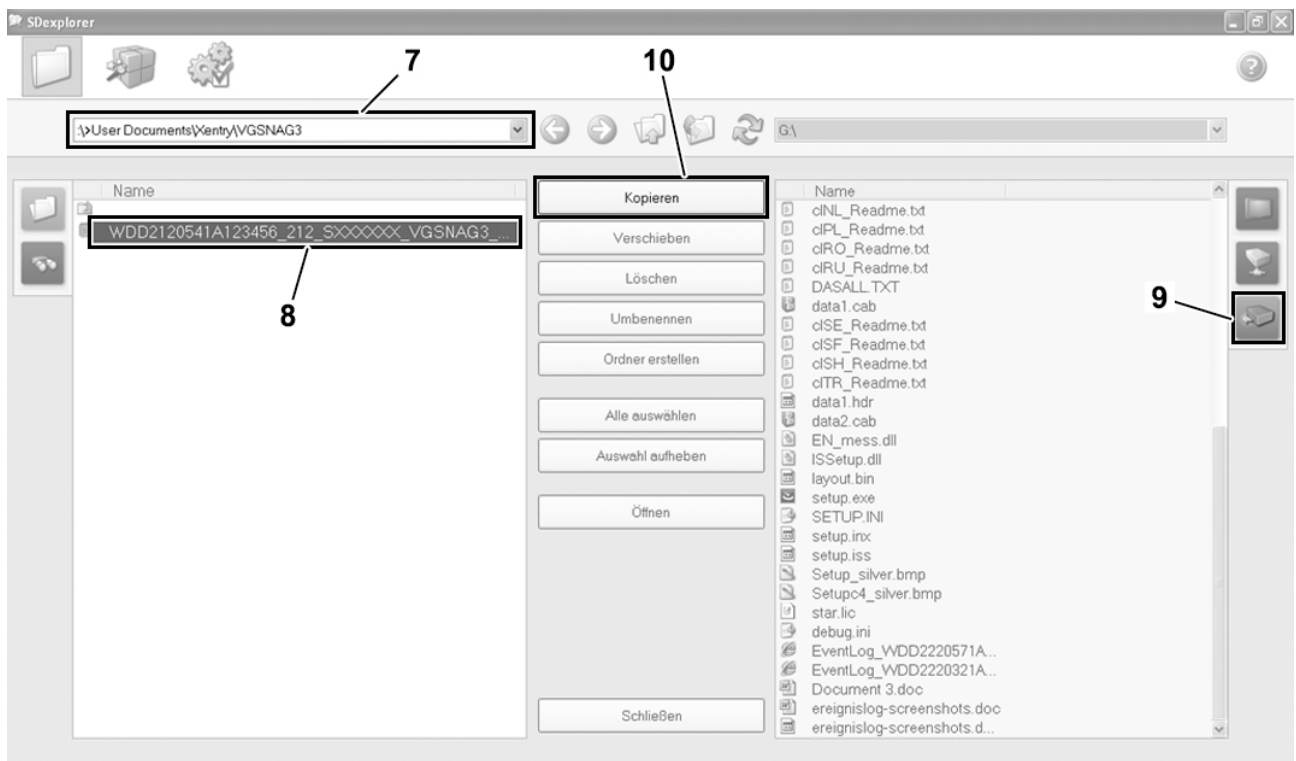

Figure 4.
7. The EEPROM data (Figure 4) (8) with VIN is stored in the SDexplorer under "USER_DOCUMENTS\Xentry\VGSNAG3\" (Figure 4) (9).
8. To enable data to be transferred onto a data medium a "USB data medium" (Figure 4) (9) must be chosen as the storage option.
9. Transfer the data using "copy" (Figure 4) (10) to a USB stick. The file contains the VIN and date and time as the file name.